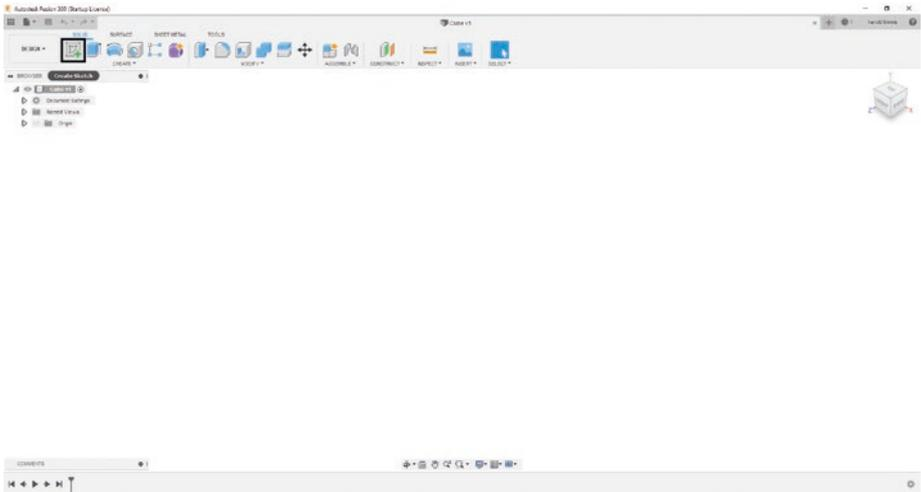

Figure 3-39. Left-click “CREATE SKETCH”
2. Click the “Create Sketch” icon under the “SOLID” tab. See Figure 3-39.